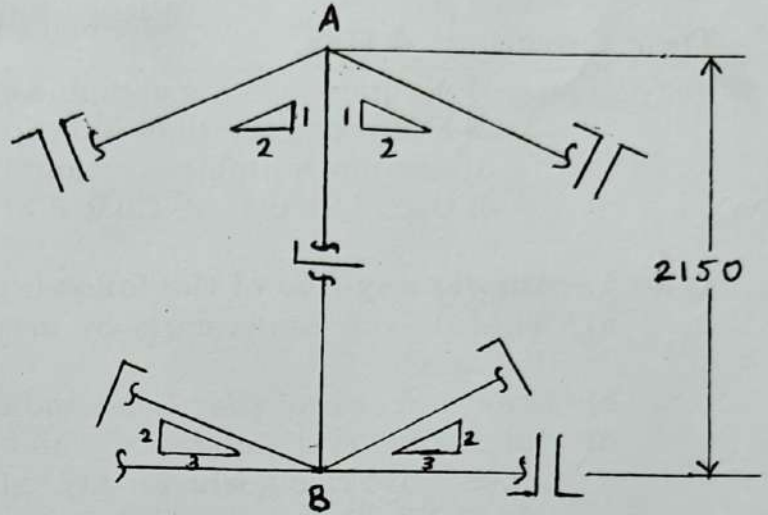

Fig 2, Q.4(a)
- Draw the fabrication drawing of the gusset plates at 'A' and 'B' and determine the exact length of the member A-B in the portion of truss whose design drawing is shown in fig.2: